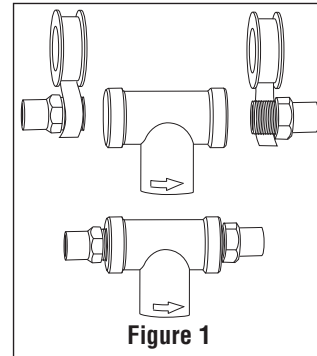

Figure 1
1. Using PTFE tape, wrap the threaded ends of the adapters and screw into both ends of the cartridge head. **Do not** use pipe sealant/dope as they may contain solvents that may deteriorate fittings. (Figure 1)